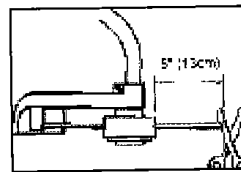

Fig. 4A
- To avoid engine overloading during start, shorten the cutting line to 13cm if necessary (see Fig. 4A).